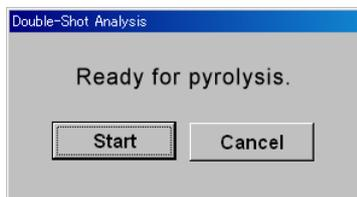

Fig. 4.12 Pyrolysis start dialog box in Double-Shot analysis
- (10) Thermally desorbed components are then analyzed by GC. When the analysis completes, the GC oven will cool down to the initial temperature.
- (11) When the GC sends a READY signal, the dialog box shown in Fig. 4.12 will be displayed. Manually press the sample cup drop button at the top of the sampler. After the sample cup drops into the furnace, immediately click the "Start" button on the dialog box or hit "ENTER" key on the PC keyboard. *This will start the GC.*